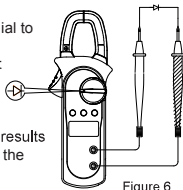

Figure 6
4. Diode measurement ($\rightarrow \rightarrow$) (See Figure 6)